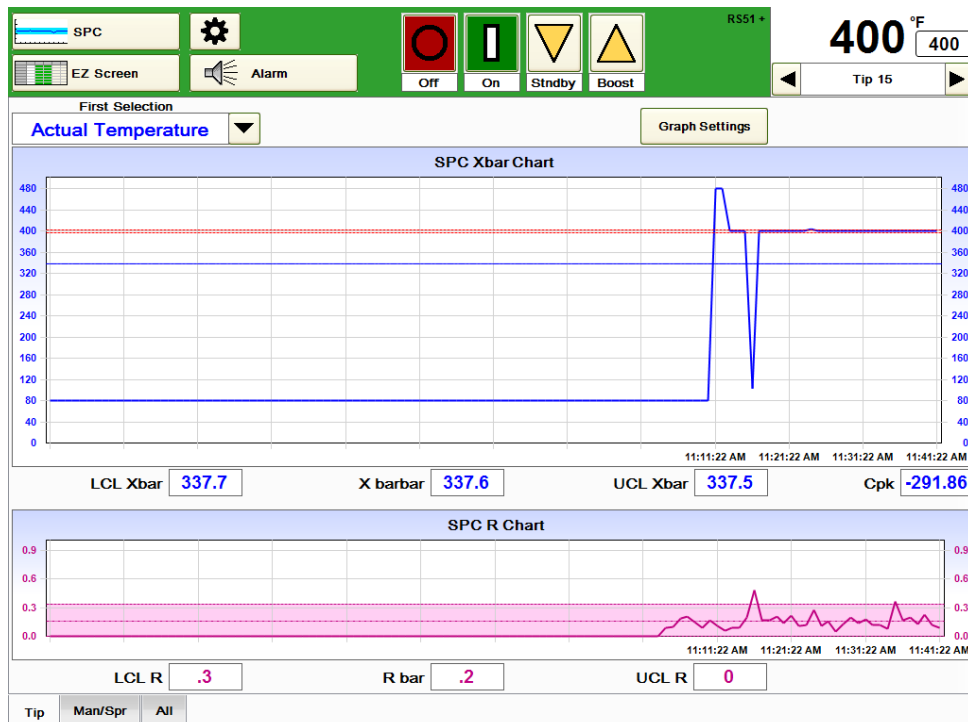

Figure 7h SPC Graph
SPC Graph: This graph shows the statistical process control Xbar and R Chart for any variable. The choices include Actual Temperature, Deviation (from setpoint), Percent Output, Heater Current (amperage), Heater Voltage, Heater Resistance, Temperature Setpoint and Manual % Output Setpoint. In Figure 7h, Actual Temperature data is displayed. The lower control limit (LCL Xbar), the mean (X barbar) and the upper control limit (UCL Xbar) and the capability index (Cpk) are calculated and displayed beneath the top graph. The Range (R) of the value is calculated and displayed in the lower graph along with the lower control limit (LCL R), the mean range (Rbar) and the upper control limit (UCL R).